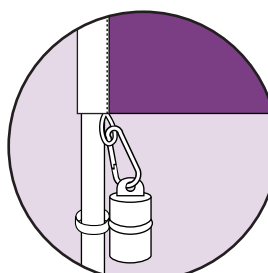

Fig 7.
7. Attach the weight onto the rope loop at the bottom of the flag. (see fig 7)